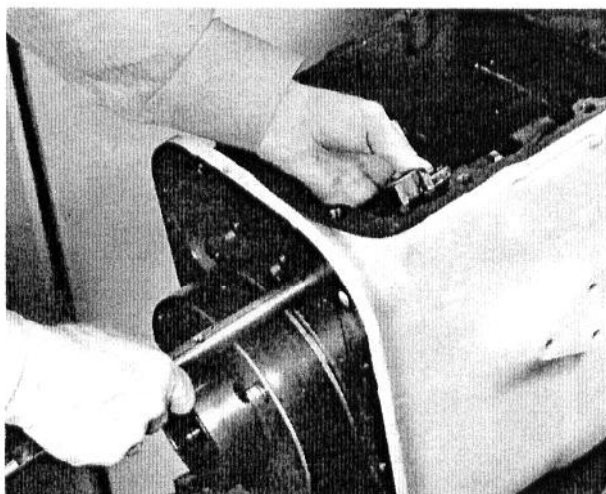

Fig. 24 - Installing Planetary Shift Selector and Rail
- b. Hold planetary shift selector (with notch rearward and to right) and slide shift rail through shift fork and selector, as shown in Fig. 24.
- b. Hold planetary shift selector (with notch rearward and to right) and slide shift rail through fork and selector, as shown in Fig. 24.